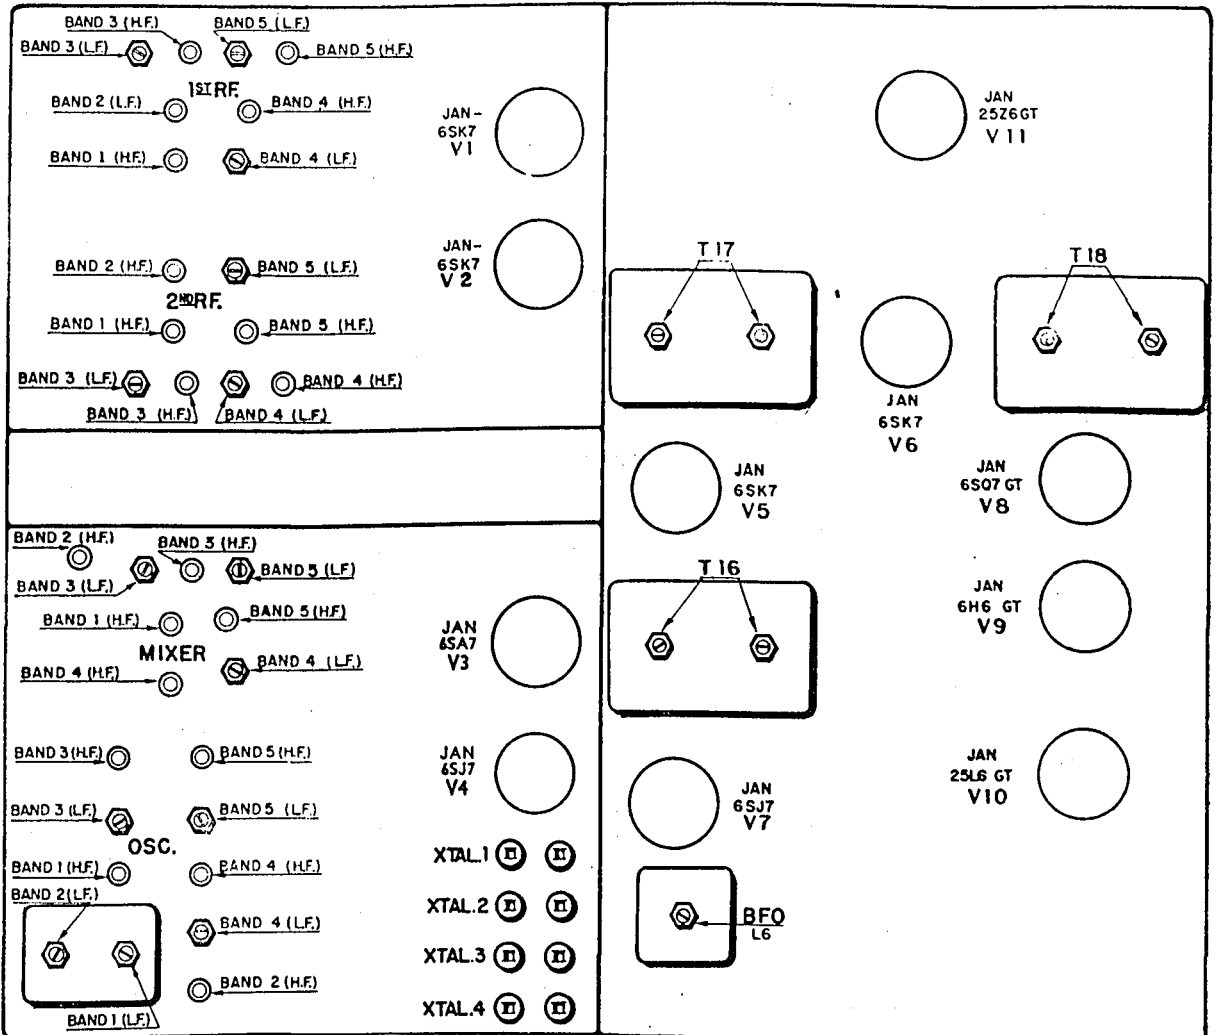

Figure 2. Trimmer and tube layout chart, top view of chassis.
a. Tubes. If a tube checker is available, test all tubes. After checking tubes, install them as indicated in figure 2. Near each tube is stenciled the tube circuit